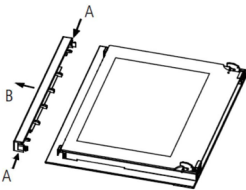

Fig. 3
1. Press the button (A) on left and right side of door, take out top rail. (Fig.3)